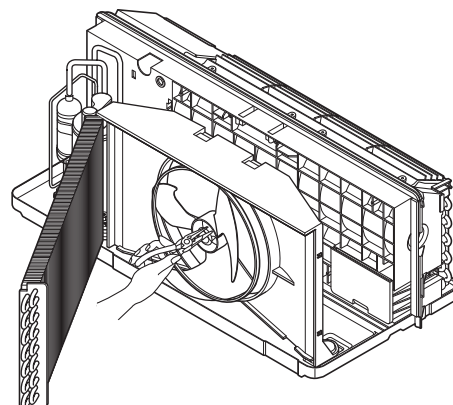

Figure 12
4. Remove the clamp which secures the fan with pliers. (See Figure 12)
3. Remove the 2 screws which fasten the motor. (See Figure 12)